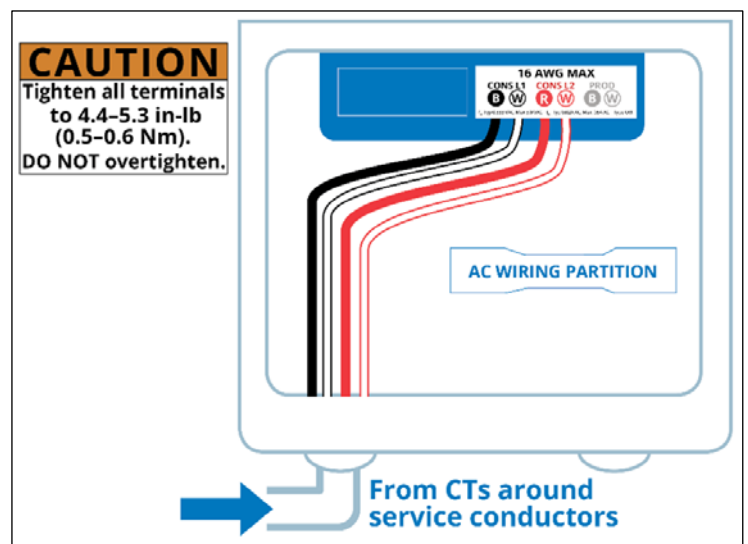

Fig. 32
5. Land **L1 CT** and **L2 CT** wires in corresponding **CONS L1** and **CONS L2** in the J16 terminals on the bottom right terminals of the PVS5x board (Fig. 32). Tighten to 4.4–5.3 in-lb (0.5–0.6 N-m). If you shorten the leads, strip no more than 1/4" (6 mm).